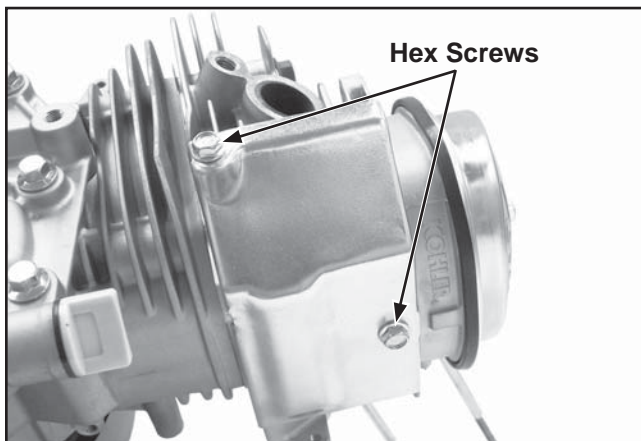

Figure 11-65. Install Lower Heat Shield.
2. Install lower shield on the cylinder and secure with two hex flange screws. Torque to 8 N·m (71 in. lb.). See Figure 11-65.